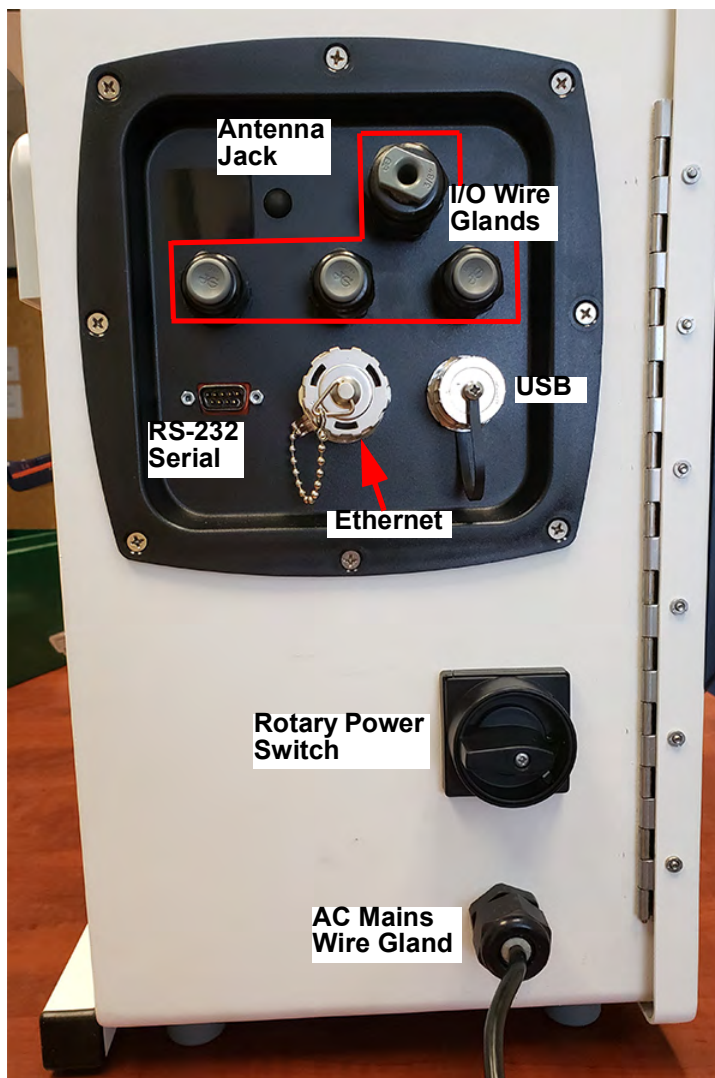
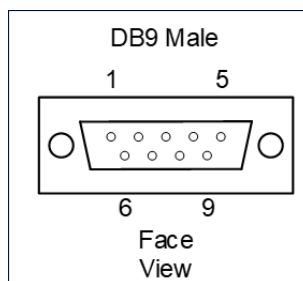

Figure 3-7: Input and Output Connections
Figure 3-8: Asynchronous Serial Port (RS-232)
1. Turn the rotary power switch (located on the left outside panel of the Analyzer; see Figure 3-7 on page 82) to the *On* position to initiate power in the Analyzer. The touchscreen illuminates and displays a splash screen.
To install a USB memory device, insert it into the USB port. (See Figure 3-7: Input and Output Connections on page 82.) The device must be oriented properly to slide into the port.
The serial connection is provided as an optional means of capturing data from the Analyzer. Serial cables are available at many computer and office supply retail stores. Refer to Figure 3-7: Input and Output Connections on page 82, and "Figure 3-8: Asynchronous Serial Port \(RS-232\)" on page 84, as needed.
NOTE: For long distance connections (up to 1,000 feet or 305 meters), Veolia recommends use of either a RS-232 current loop converter or an RS-422 converter. Optionally, an Ethernet connection is available. See Figure 3-7: Input and Output Connections on page 82.
Attach one end of an Ethernet cable to the Ethernet port located on the left outside panel of the Analyzer (Figure 3-7: Input and Output Connections). Attach the other end of the cable to an Ethernet port on the network, to a computer, or to a printer. After installing the Ethernet cable, configure Ethernet in the Analyzer's firmware, "Configuring an Ethernet Connection" on page 156. To set up the printer for use with the Analyzer, see "Enabling a PDF Printer" on page 95. To assist in using the Modbus communications with the Analyzer, refer to Appendix E, "Modbus with the Analyzer."